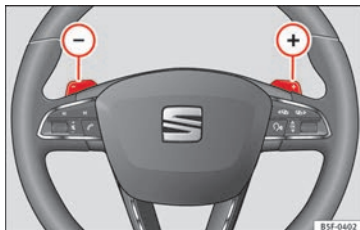

Fig. 172 Steering wheel with paddle levers for automatic gearbox.
- Press the right paddle lever (+) towards the steering wheel to change up »» Fig. 172.
- Press the left paddle lever (-) towards the steering wheel to change down »» Fig. 172.
If the paddle levers **»» Fig. 172** are used in the normal or sport programme, the system switches temporarily to “tiptronic” mode. To exit “Tiptronic” mode again, press the right paddle lever (+) towards the steering wheel for approximately one second. You will also leave “tiptronic” mode if the paddle levers are not moved for a certain time.